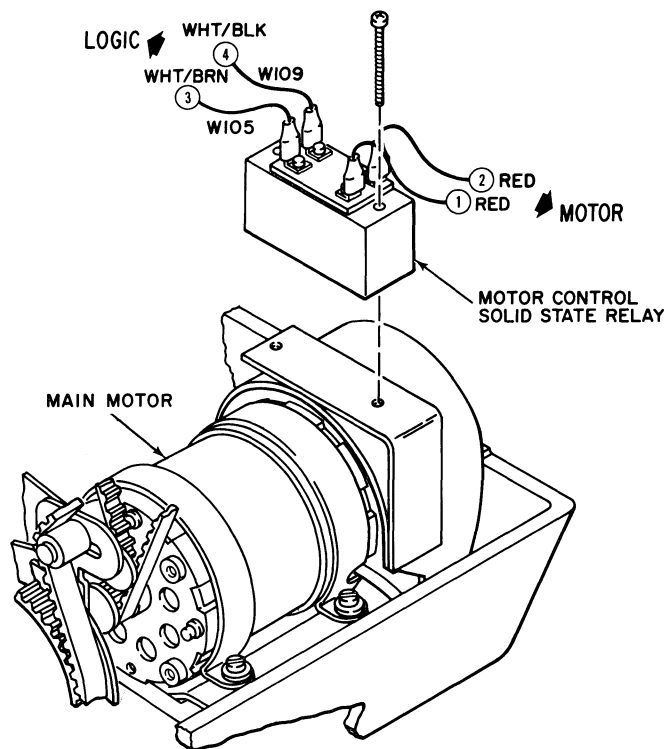

Figure 5-19. MOTOR CONTROL LOCATION AND INSTALLATION
2. Remove motor control relay from top of bracket on the motor located at the rear of the printer (See Fig. 8-i, key no. 23) by removing screws supplied on the motor control unit (See Fig. 5-19).
3. Disconnect wht/blk and wht/brn wires from the logic wiring harness, from terminals 3 and 4 on the relay (See Fig. 5-19).
4. Remove insulating cap from red and blue wires in the power wiring harness, and disconnect terminals 1 and 2 from the relay (See Fig. 5-19).